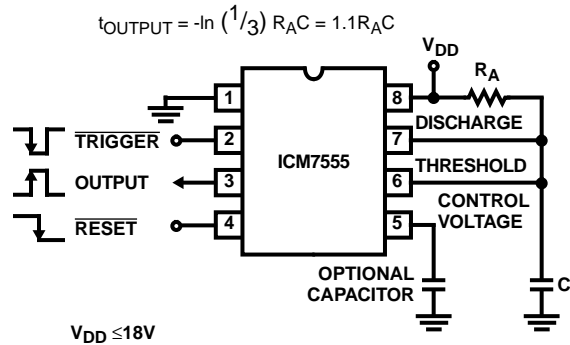

FIGURE 3. MONOSTABLE OPERATION
In this mode of operation, the timer functions as a one-shot, see Figure 3. Initially the external capacitor (C) is held discharged by a transistor inside the timer. Upon application of a negative $\overline{\text{TRIGGER}}$ pulse to pin 2, the internal flip-flop is set which releases the short circuit across the external capacitor and drives the OUTPUT high. The voltage across the capacitor now increases exponentially with a time constant $t = R_A C$. When the voltage across the capacitor equals $\frac{2}{3} V_+$, the comparator resets the flip-flop, which in turn discharges the capacitor rapidly and also drives the OUTPUT to its low state. $\overline{\text{TRIGGER}}$ must return to a high state before the OUTPUT can return to a low state.